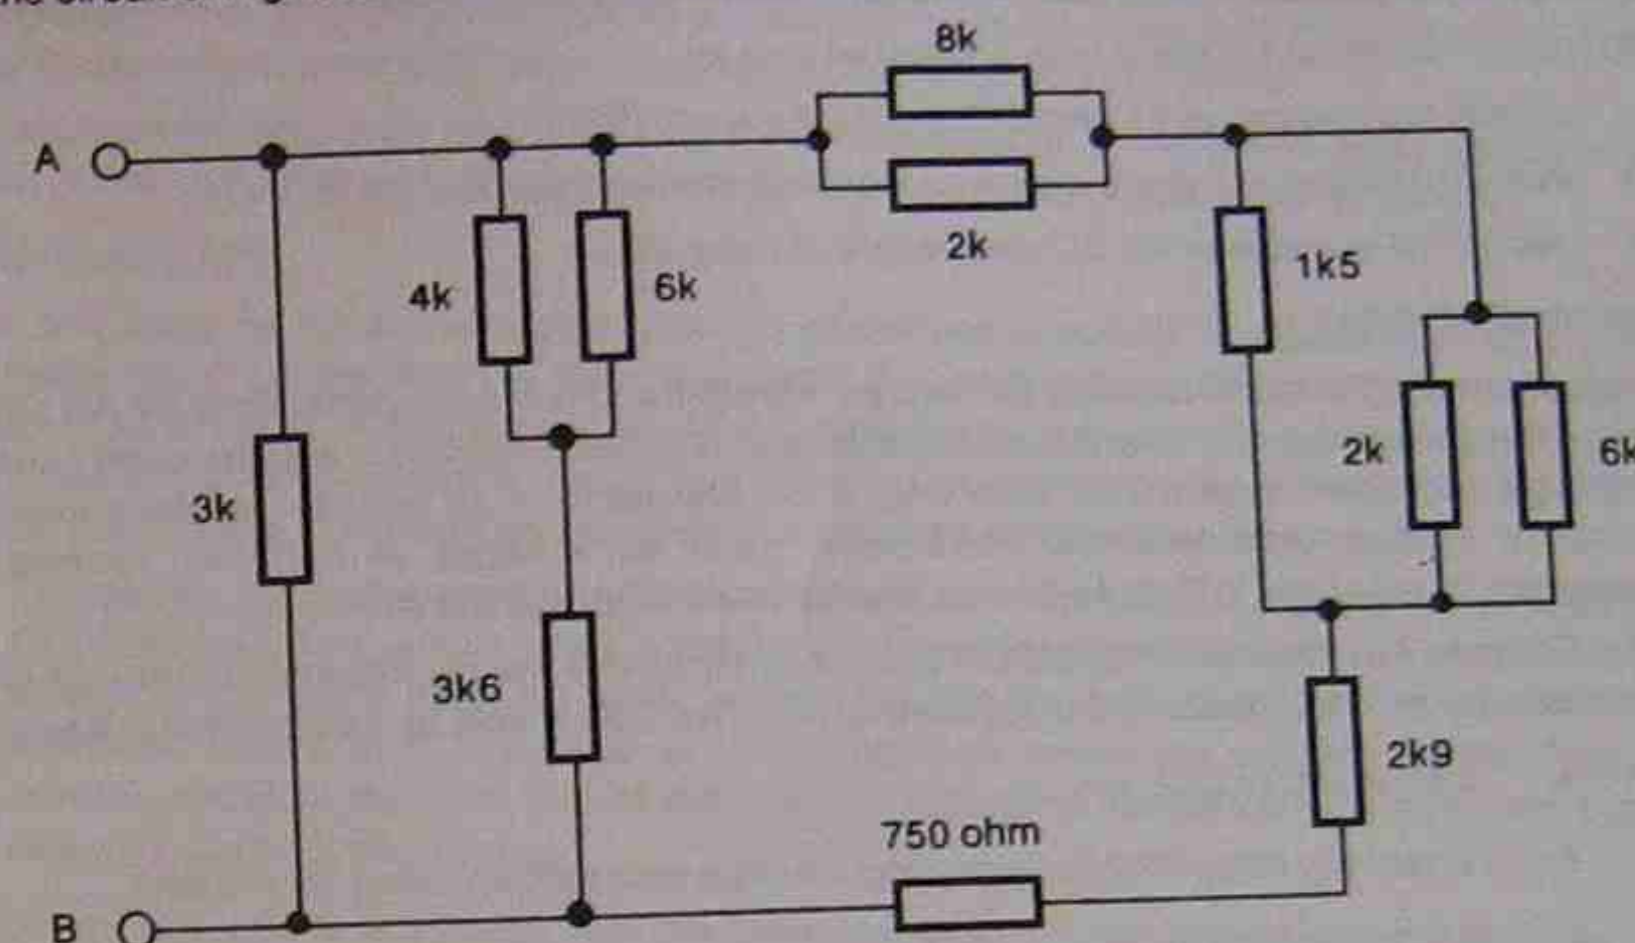

Fig.1
- For the circuit of Fig.1, calculate the resistance between points A and B.